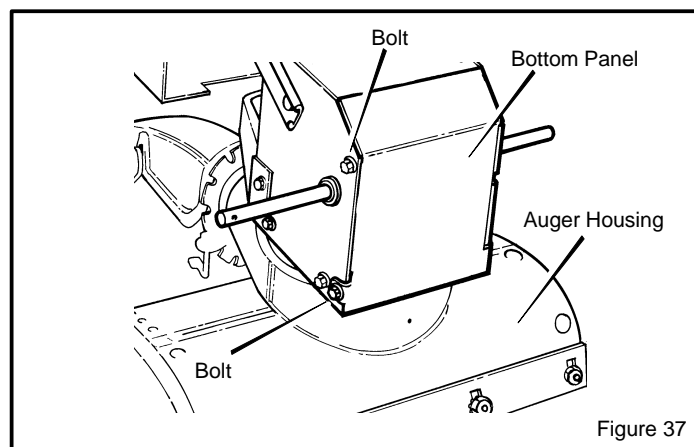

Figure 37
1. Remove the gas from the gas tank. Stand the snow thrower up on the front end of the **auger housing** (see Figure 37).
3. Loosen the **bolts** on each side of the **bottom panel** (see Figure 37).
5. Install the **bottom panel** (see Figure 37).
1. Remove the gas from the gas tank. Stand the snow thrower up on the front end of the **auger housing (4)**. (see Figure 37).